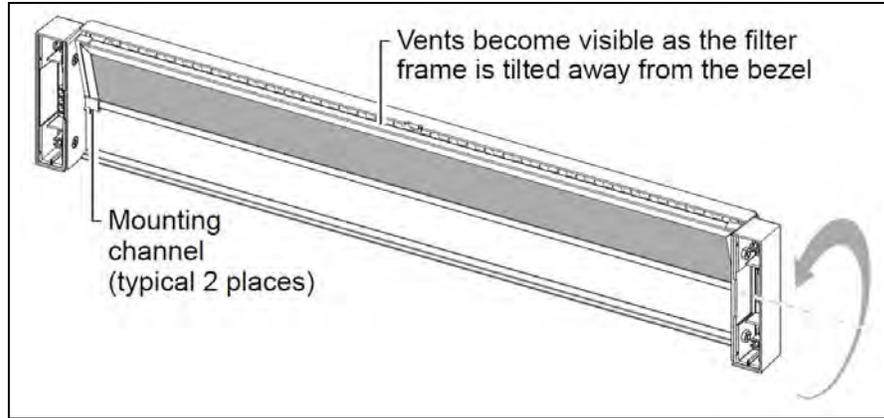

Figure 5.42 - Air Filter Removal
5. Tug the top of the filter frame gently to revolve it away from its vertical position and then pull upward to release the filter from the bezel's two mounting channels (**Figure 5.42**).
Only one of the mounting channels is shown in Figure 5.42. The other channel is hidden by the ear cover on the right.